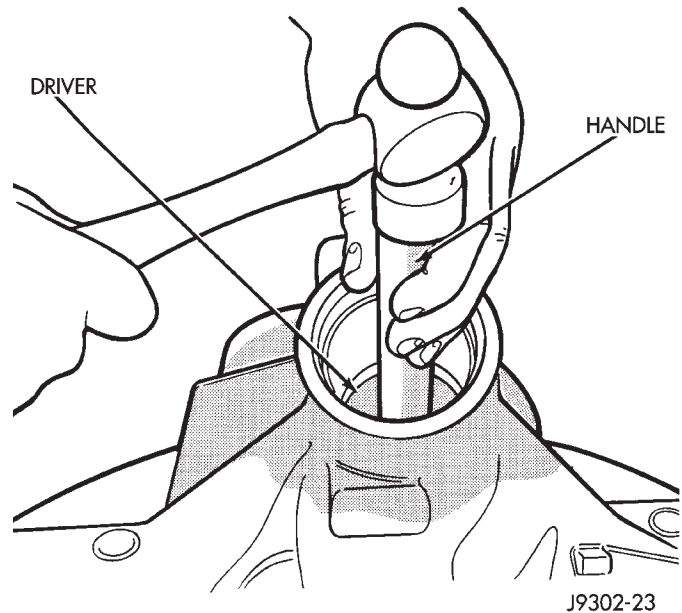

Fig. 27 Rear Bearing Cup Removal
(11) Remove the rear bearing cup from housing (Fig. 27). Use Remover C-4307 and Handle C-4171.